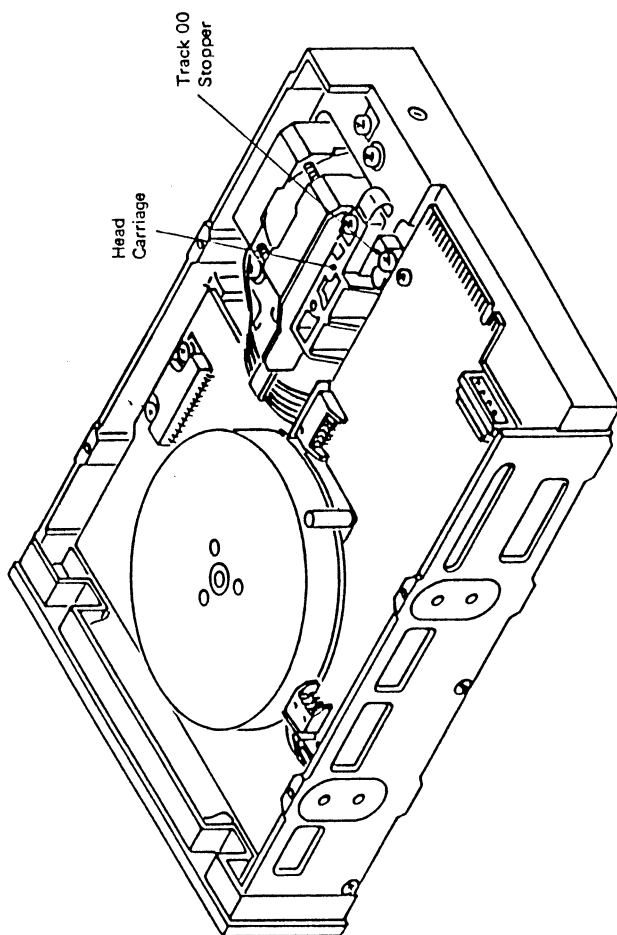

Figure 5.10 Track 00 sensor adjustment (stopper)
- Loosen the fixing screw of the track 00 stopper (see Figure 5.10).
Run Test A TRACK SEEK and position the head to track 00. Adjust the track 00 stopper to give a clearance of $0.25 \text{ mm} \pm 0.15 \text{ mm}$ ($0.01 \text{ in.} \pm 0.006 \text{ in.}$) between the stopper and the head carriage (see Figure 5.10). Tighten the stopper fixing screw and apply a small quantity of locking paint to the screw head.